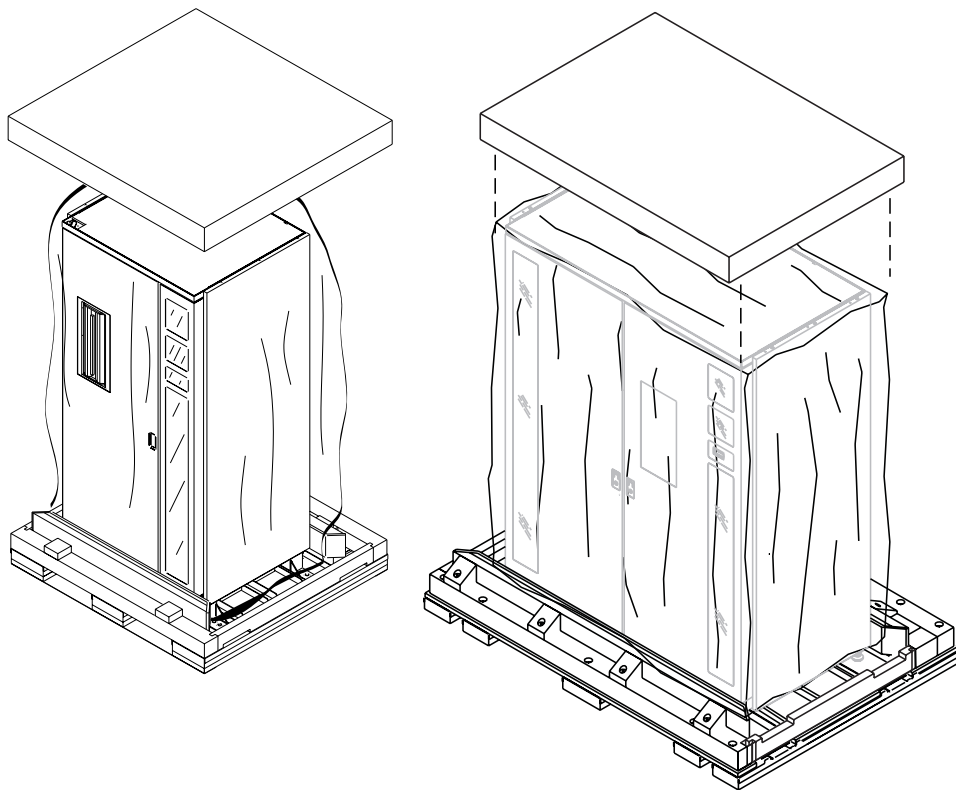

Figure 4-5. Removing the foam cap
9. Lift the foam cap up and off the library (see Figure 4-5).